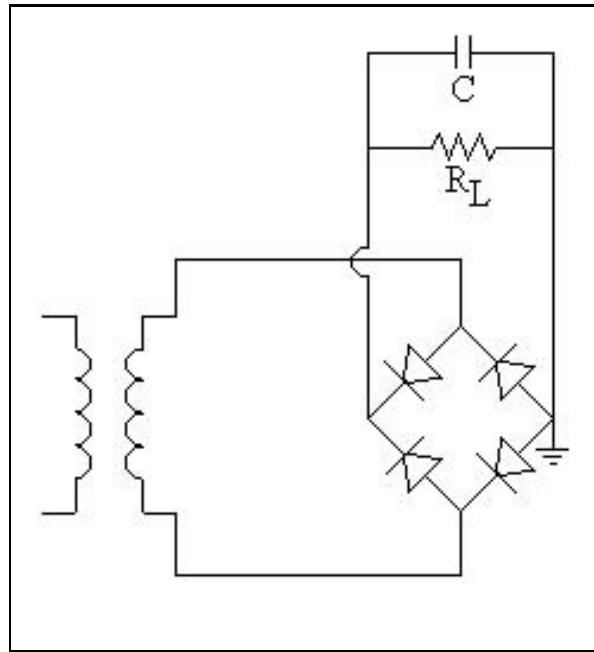

Figure 1.5: Full-Wave Supply with Step-Down Transformer
We observed that in the half-wave rectifier, we lost half of our signal. To take advantage of the entire signal we construct a power supply with the full-wave rectifier which is shown in Fig. 1.5.
2. First, set up the circuit in Fig. 1.5, with $R_L = 10K$, except without the capacitor. After setting up the circuit, sketch the output as a function of time.
5. Sketch the voltage signals on either side of the transformer, and the signal across the parallel resistor-capacitor versus time for the circuit in Fig. 1.5. Take the signal frequency into the transformer to be $V(t) = 120\sqrt{2}\sin(2\pi 60t)$, and the step-down turns ratio to be 5:1. Calculate the AC ripple for three values of load resistors: $R_L = 5K$, $10K$, $100K$, and take the capacitor to be $2200\mu F$.